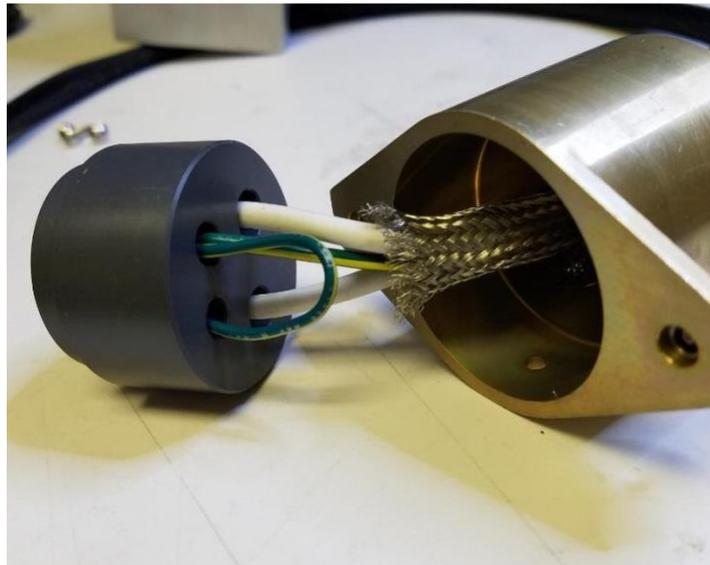

Figure 75 – Plasma Module – Gold Plug Cables
p. Slide the two white pins into the larger diameter holes on the grey insert. Make sure the insert is facing away from the plug as shown below (*Figure 75*). Make sure to push in the pin all the way until it clicks. Once in place, it becomes difficult to slide it out. Then slide the two green grounding pins into the smaller diameter holes until they click as well.
Once that's set you should be able to screw in the 2nd and final button-head screw on the gold clamp all the way into the gold hood. Then finish tightening the other screw. All 4 screws should be tight, and the shielding should be securely pressed against the gold hood, as well as the clamp is securely tightened down on the snakeskin cord as shown below (*Figure 75*).